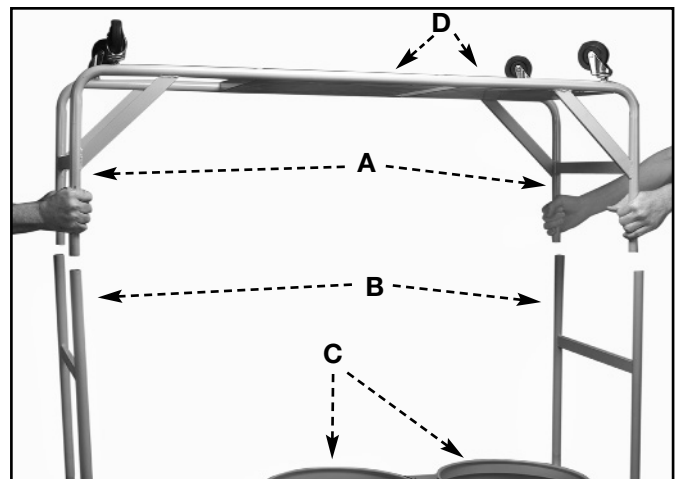

Fig. 3
Place all four stand posts (A) Fig. 3 into four legs (B) on motor/blower assembly. Make sure metal base plates (D) are arranged over the large dust collection holes (C).